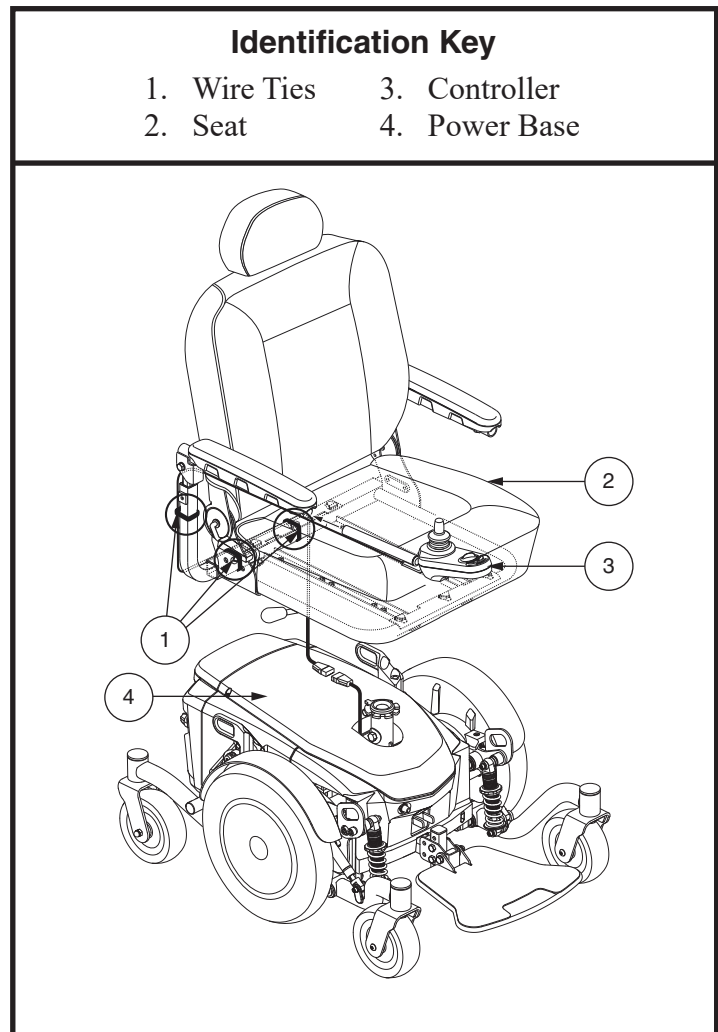

Figure 7. Seat and Controller Assembly
1. Slide the seat down onto the power base. See figure 7.
3. Lift the armrest straight up, then route the controller harness and secure with wire ties as shown in figure 7.